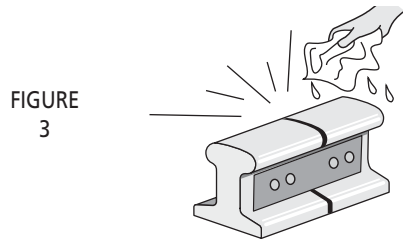

FIGURE 3
1. Clean the rail surface and bond terminals. Scrape off excess dirt and grease, and wipe away any remaining residue using a clean rag saturated with a railroad approved solvent. **See Figure 3.** The rail must be dry prior to welding!